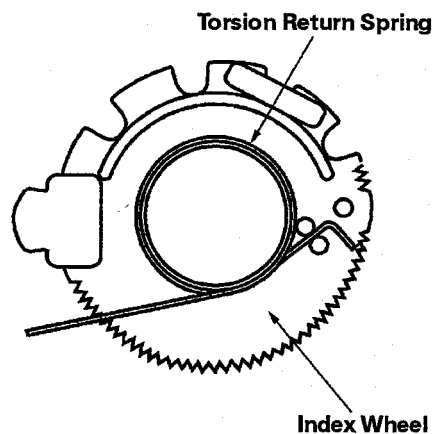

Figure 2-18
17. Remove torsion return spring from index wheel, *see Figure 2-18.*